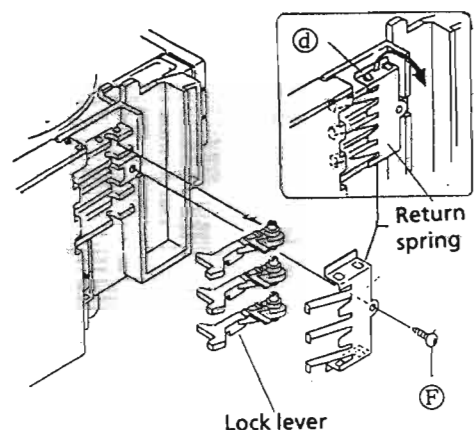

Fig. 2-4
6. Remove a screw (F) which secures the return spring and lock levers from the chassis ass'y. (See Fig. 2-4.)